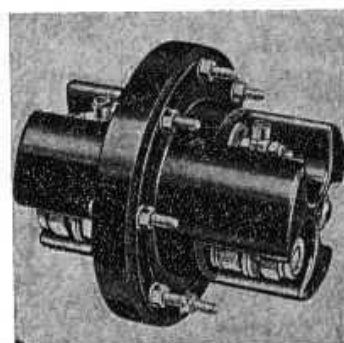

Fig. 15. Heavy duty pressurized bulkhead unit
33. This connector (fig. 15) is pressurized at 15 lb/in^2 and designed for use at pressure cabin bulkheads where heavy duty connections must be broken. The type illustrated will accommodate two 200A conductors and one 19A conductor; another